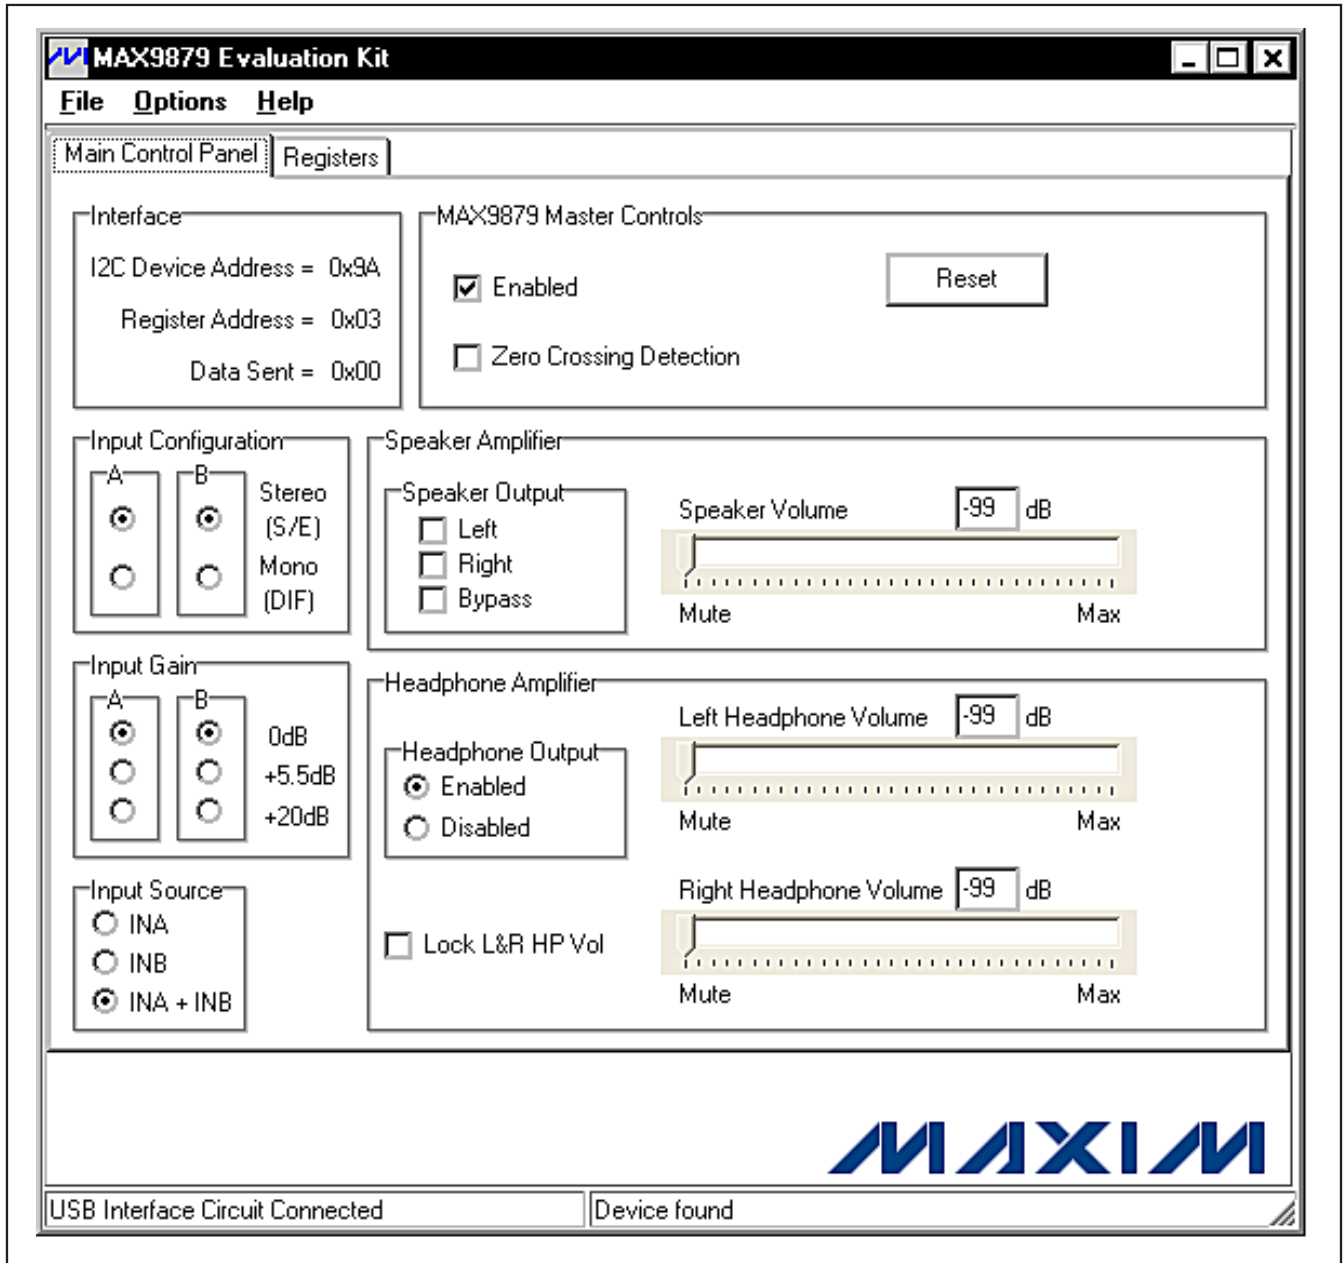
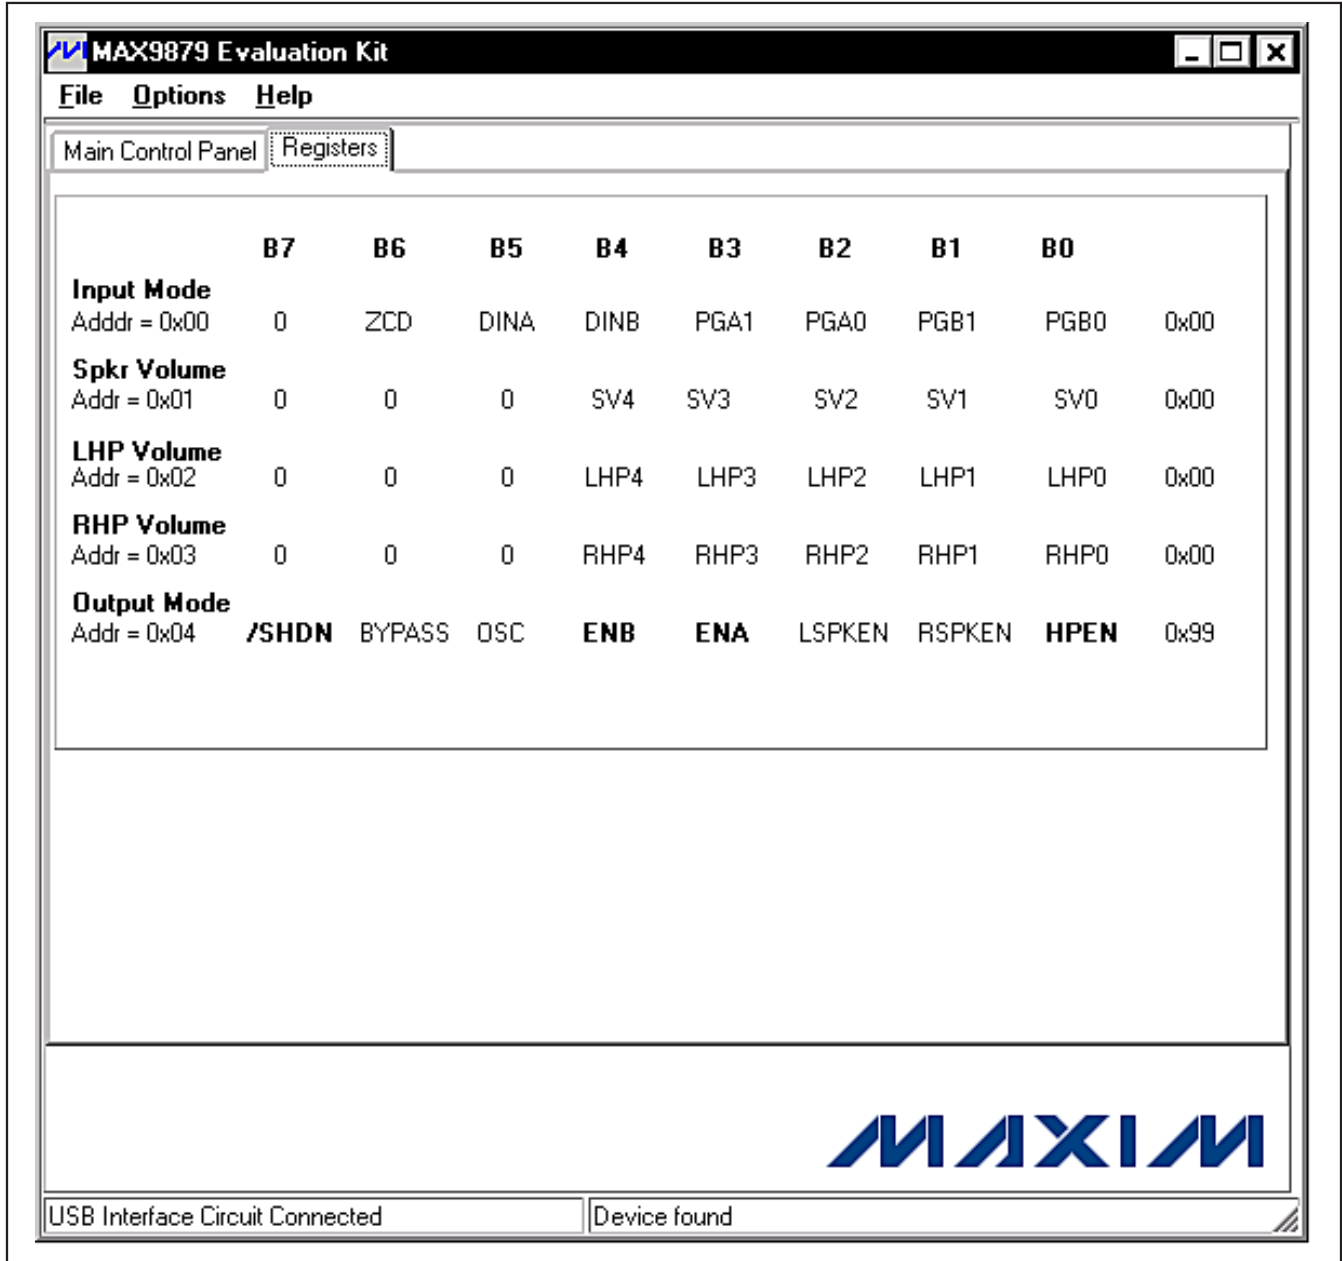

Figure 1. MAX9879 EV Kit Software Main Window (Main Control Panel Tab)
Figure 2. MAX9879 EV Kit Software Main Window (Registers Tab)
- 11) Start the EV kit software by opening its icon in the **Start | Programs** menu. The EV kit software main window appears, as shown in Figure 1. Observe as the program automatically detects the address of the MAX9879 and starts the main program.
The user interface (Figures 1 and 2) is easy to operate. Each button corresponds to bits in the command and configuration bytes. By pressing them, the correct I²C write operation is generated to update the internal registers of the MAX9879. The **Interface** group box (Figure 1) indicates the current **I²C Device Address**, **Register Address**, and the **Data Sent**, for the last write operation. This data is used to confirm proper device operation.
The MAX9879 EV kit software main window is divided into two tab sheets: **Main Control Panel** (Figure 1), for controlling the features of the IC, and **Registers** (Figure 2), for displaying a register overview of which bits are toggled.
The MAX9879 EV kit software **Registers** tab sheet (Figure 2) displays the data bit logic-level status for each individual register. A data bit shown in bold indi-